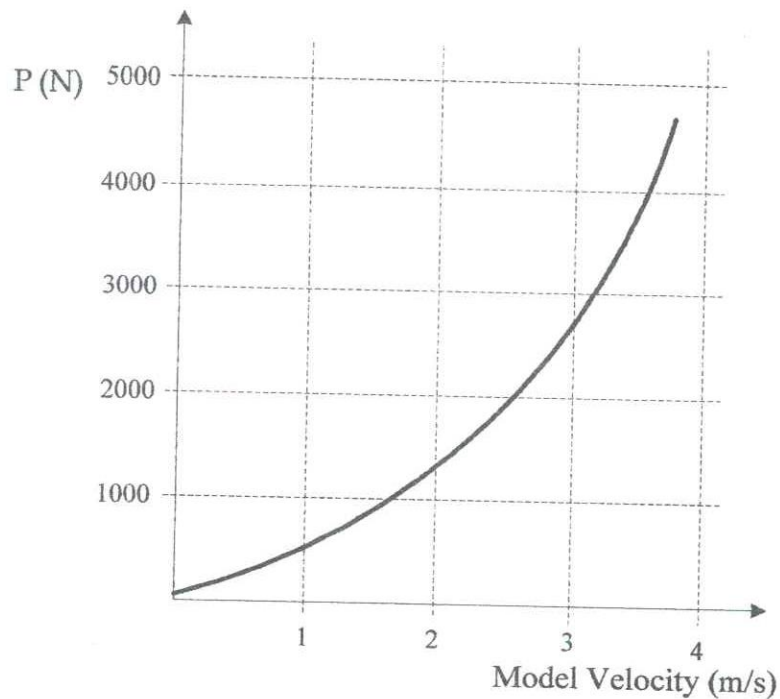

Figure Q4b
- (ii) The gauge pressure P is to be determined from a model study for a 20 cm diameter prototype placed in an air stream having a speed of 2.5 m/s. A 1:12 scale model is to be used with water as the working fluid. Some experimental data obtained from the model are shown in Figure Q4b. Calculate the pressure at corresponding point A in the prototype.